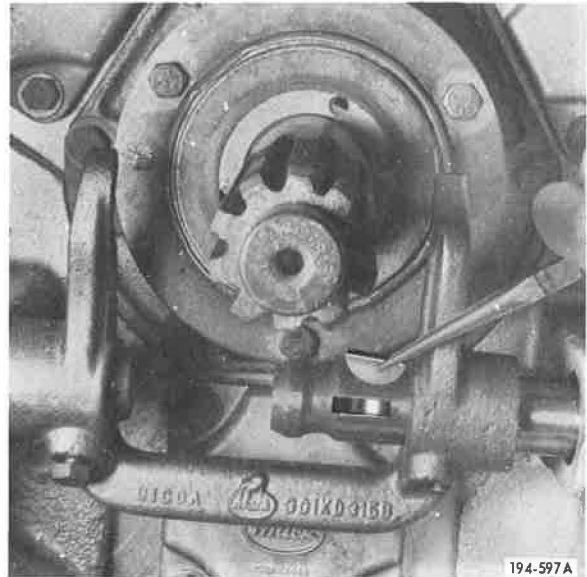

Figure 10. Removing Woodruff Key
4. Drive splined clutch release shaft inward, and remove Woodruff key. See Figure 10.